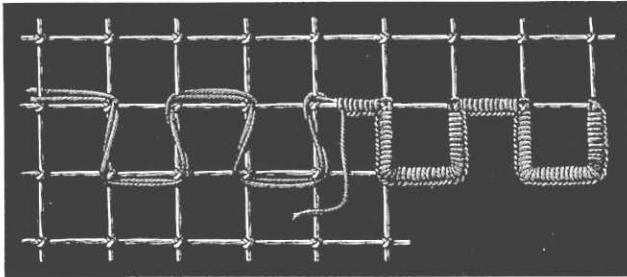
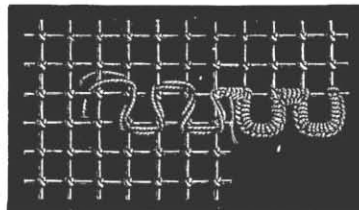

Fig. 58.
Fig. 59.
**Bordering in buttonhole stitch** (figs. 58 and 59). — Scalloped edges in net should be buttonholed, always from right to left. A padding of several threads should be laid down first to give relief to the buttonhole stitches, you then cover the bars of the net entirely, making besides, three to five stitches over the knots of the net turned outwards; the knots turned inwards are skipped and the bars of the net must not be cut until the whole border is finished.
Fig. 58 shews a bordering buttonholed on large-meshed net, which gives very square scallops. On small-meshed net the scallops round themselves in the working, as seen in fig. 59.